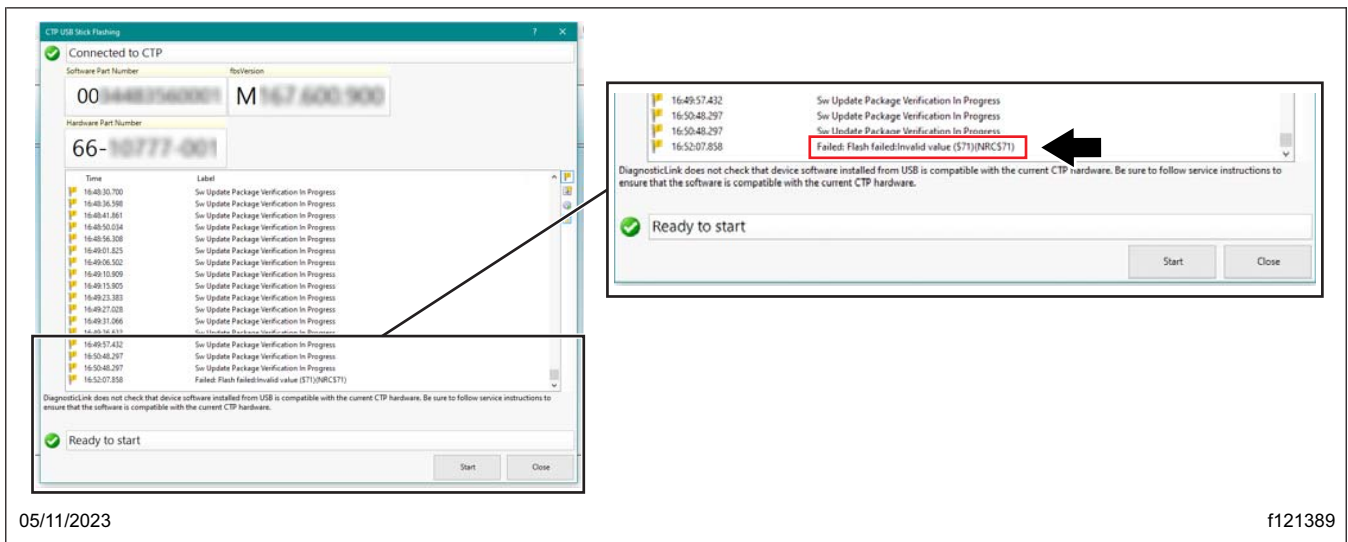

Fig. 16, Flash Failed Message
16. As the flashing process continues, check if the message 'FAILED: FLASH FAILED' is displayed in the 'CTP USB Stick Flashing' window. See Fig. 16.